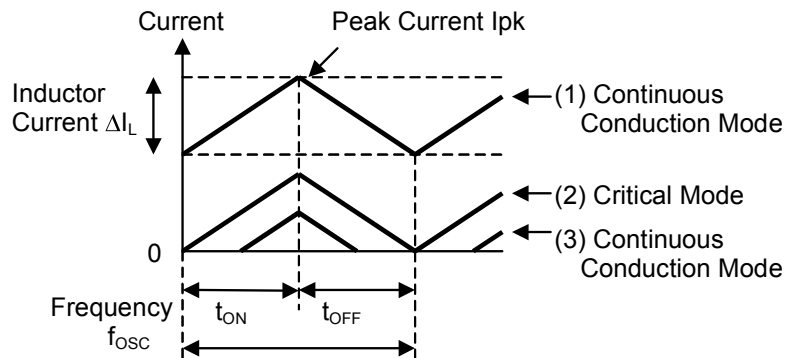

Fig. 8. Inductor Current State Transition
Ideally, the value of L is set so that inductance current is in continuous conduction mode. However, as the load current decreases, the current waveform changes from (1) CCM: Continuous Conduction Mode → (2) Critical Mode → (3) DCM: Discontinuous Conduction Mode (Fig. 8.).